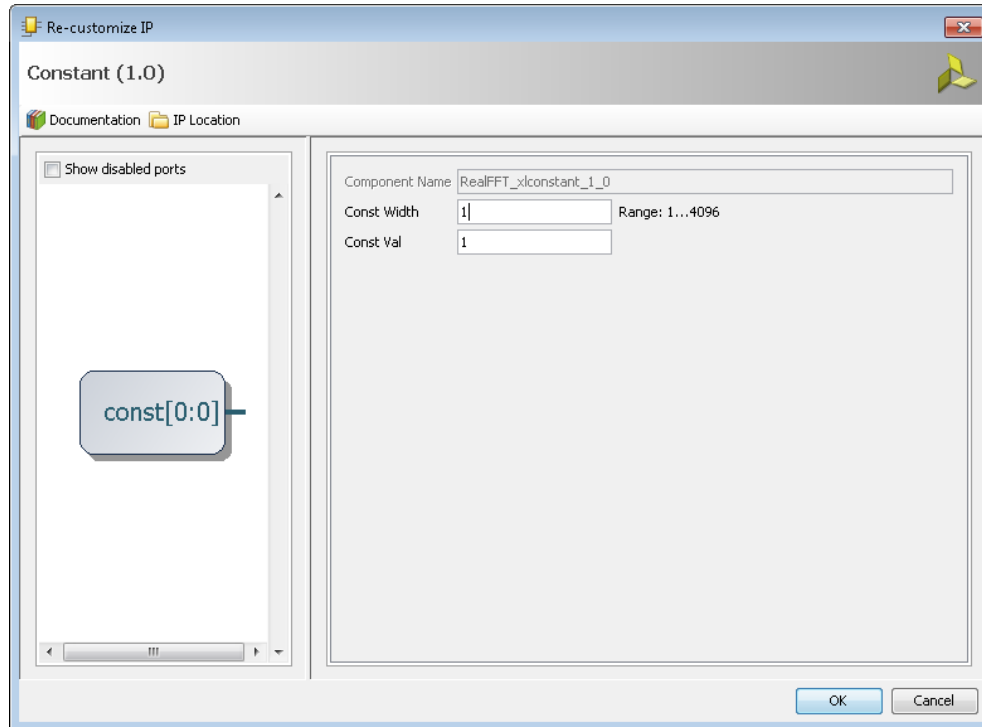

Figure 205: Constant IP Properties
- e. Double-click **Constant IP Symbol (Figure 205)** and verify that the settings for Const Width and Const Val are both ‘1’ and click **OK** to close Re-customize IP dialog box.